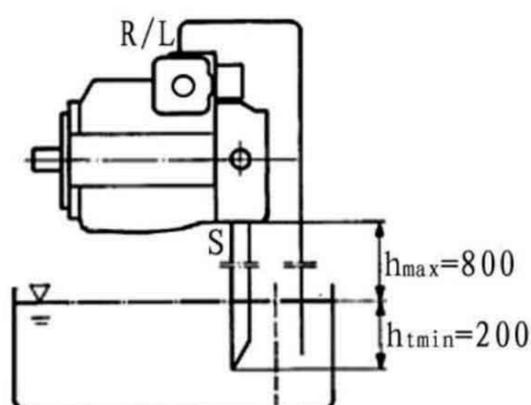

图4 Fig. 4
When the minimum fluid level lies under the pump upper edge then: drain port and possibly port »S« has to be piped, see fig. 4. Conditions are as per point 1.2. Fill pump casing before commissioning.
- a) For installation above a tank see fig. 4. Conditions are as per point 1.2. Fill pump casing before running.